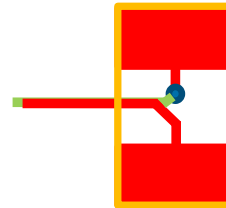

FIGURE 68. RECOMMENDED LAYOUT PATTERN FOR CURRENT SENSE TRACES REGULATOR
- For the current sensing traces close to the power sense resistor (R_{SEN_x}), the layout pattern shown in Figure 68 is recommended. Assuming the R_{SEN_x} is placed in the top layer (red), route one current sense connection from the middle of one R_{SEN_x} pad in the top layer under the resistor (red trace). For the other current sensing trace, from the middle of the other pad on R_{SEN_x} in top layer, after a short distance, via down to the second layer and route this trace right under the top layer current sense trace.